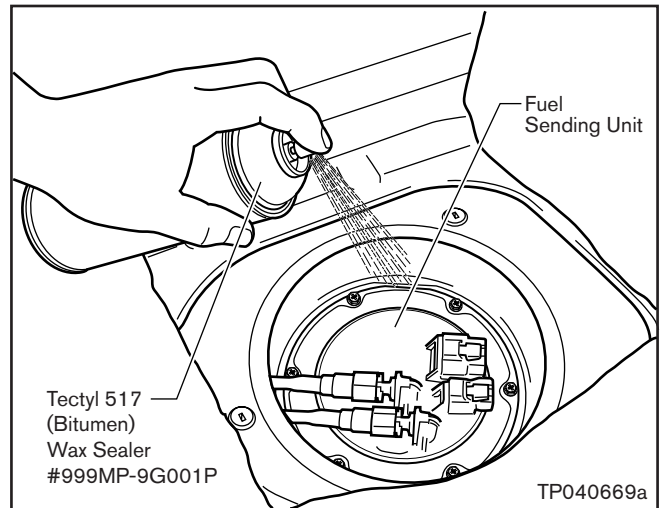

Figure 42
b. Apply ONLY Tectyl 517 (Bitumen) Wax Sealer (999MP-9G001P) around the outer edge of the Fuel Sending Unit Mounting Flange (see Figure 42).